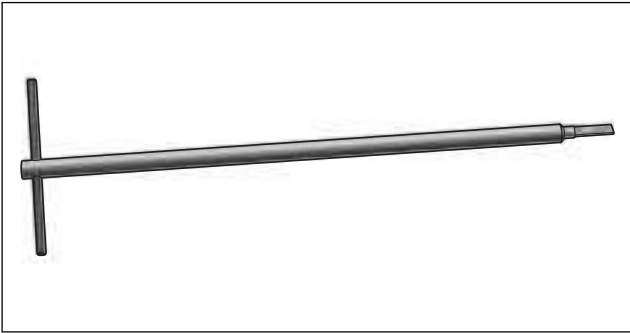

Figure 8-74. Ignition Switch Connector Remover (Part No. HD-45961)
- a. Obtain the IGNITION SWITCH CONNECTOR REMOVER (HD-45961). See Figure 8-74.